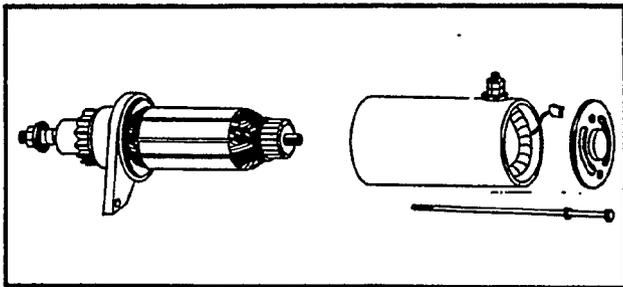
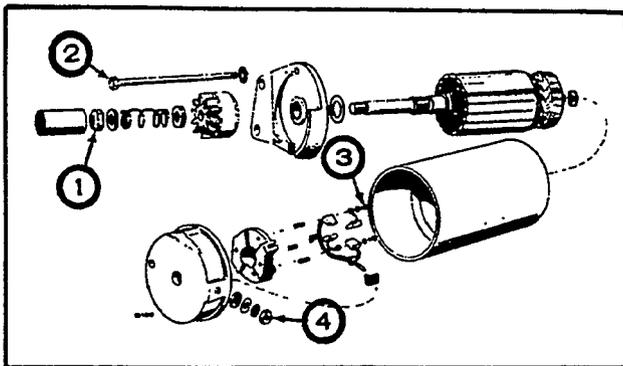

FIGURE 16. STARTER DISASSEMBLY (SPEC. A)
FIGURE 16A. STARTER DISASSEMBLY (SPEC. B)
### STARTER DISASSEMBLY (Figure 16, Spec A; Figure 16A, Spec B)
2. Torque bolts (Figure 16(a), item 3) to a value of 3-3-1/2 ft-lbs.
3. Torque nut (Figure 16(a), item 4) to a value of 4-5 ft-lbs.
5. Torque stop nut (Figure 16(a), item 1) to a value of 20-25 ft-lbs. Hold armature in a vise.
6. Torque thru-bolts (Figure 16(a), item 2) to a value of 4-1/2-6 ft-lbs.